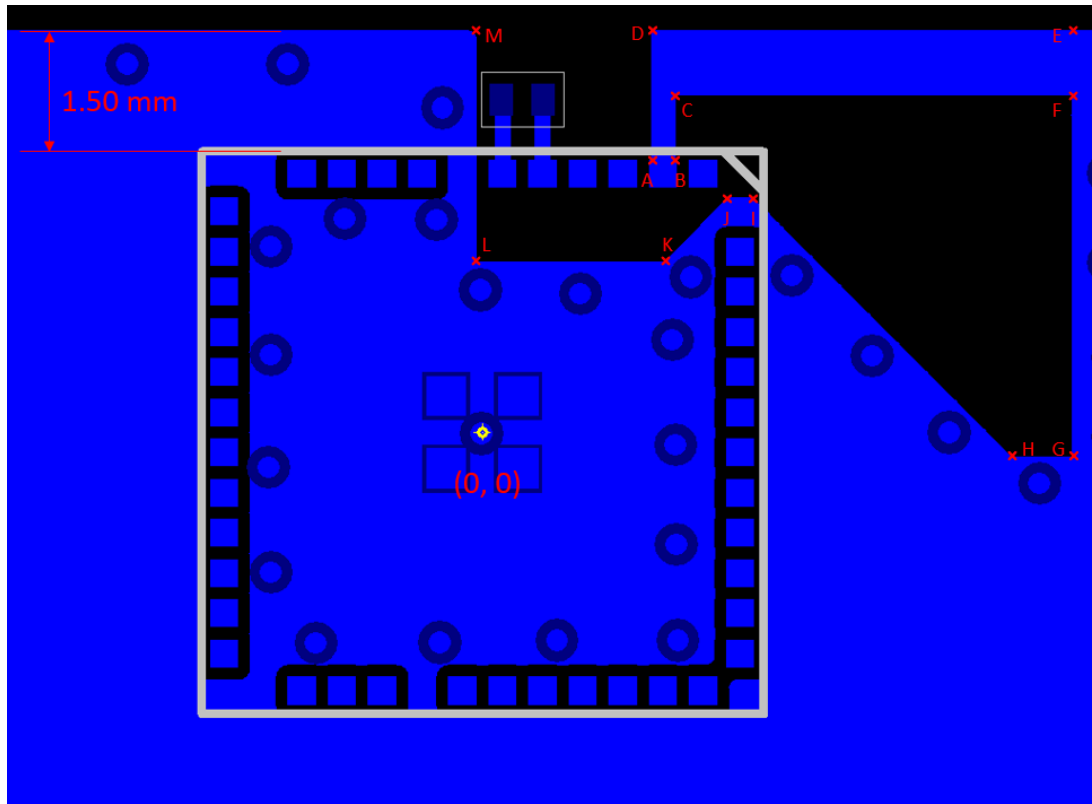

Figure 7.2. TOP Layer Antenna Layout With Coordinates
- Copy the exact design from Figure 7.2 on page 41 with the values for coordinates A to L given in Table 7.1 Antenna Polygon Coordinates, Referenced to Center of MGM240S on page 41.